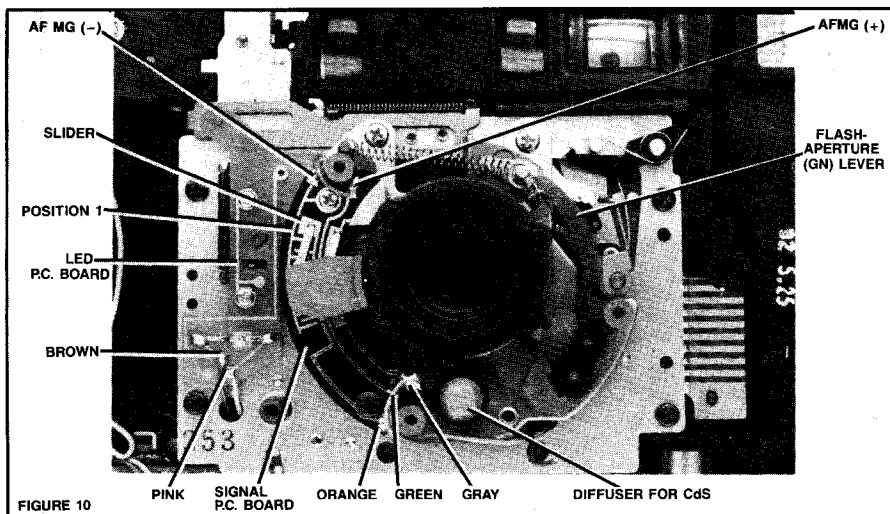

FIGURE 10
2. Check the flash aperture by first focusing on a target 2m from the film plane with the flash raised. Hold the focus setting by keeping the release partially depressed. Cover the CdS and the flashtube. Check the exposure at EV 10. The exposure should be within 1 EV. If not, bend the flash-aperture lever, Fig. 10, to
assembly (diffusion disc over CdS loose, Fig. 10)
Check the voltage to the terminal on the main circuit board marked "Q22 collector," Fig. 4. With the AF windows covered, you should measure around 3V when you depress the release part way (0V at a close-distance position—a 0V reading means the lens will stop at position 1). You should read the same voltage at the positive AF-magnet lead, Fig. 10. If you get the proper reading at the main circuit board, Fig. 4, but not at the AF magnet, Fig. 10, check for poor contact between the main circuit board and the shutter board. If you don't get the proper reading at the main cir-
Check the coil between the two red wires, Fig. 10, to the AF magnet. You should measure around 280 ohms.